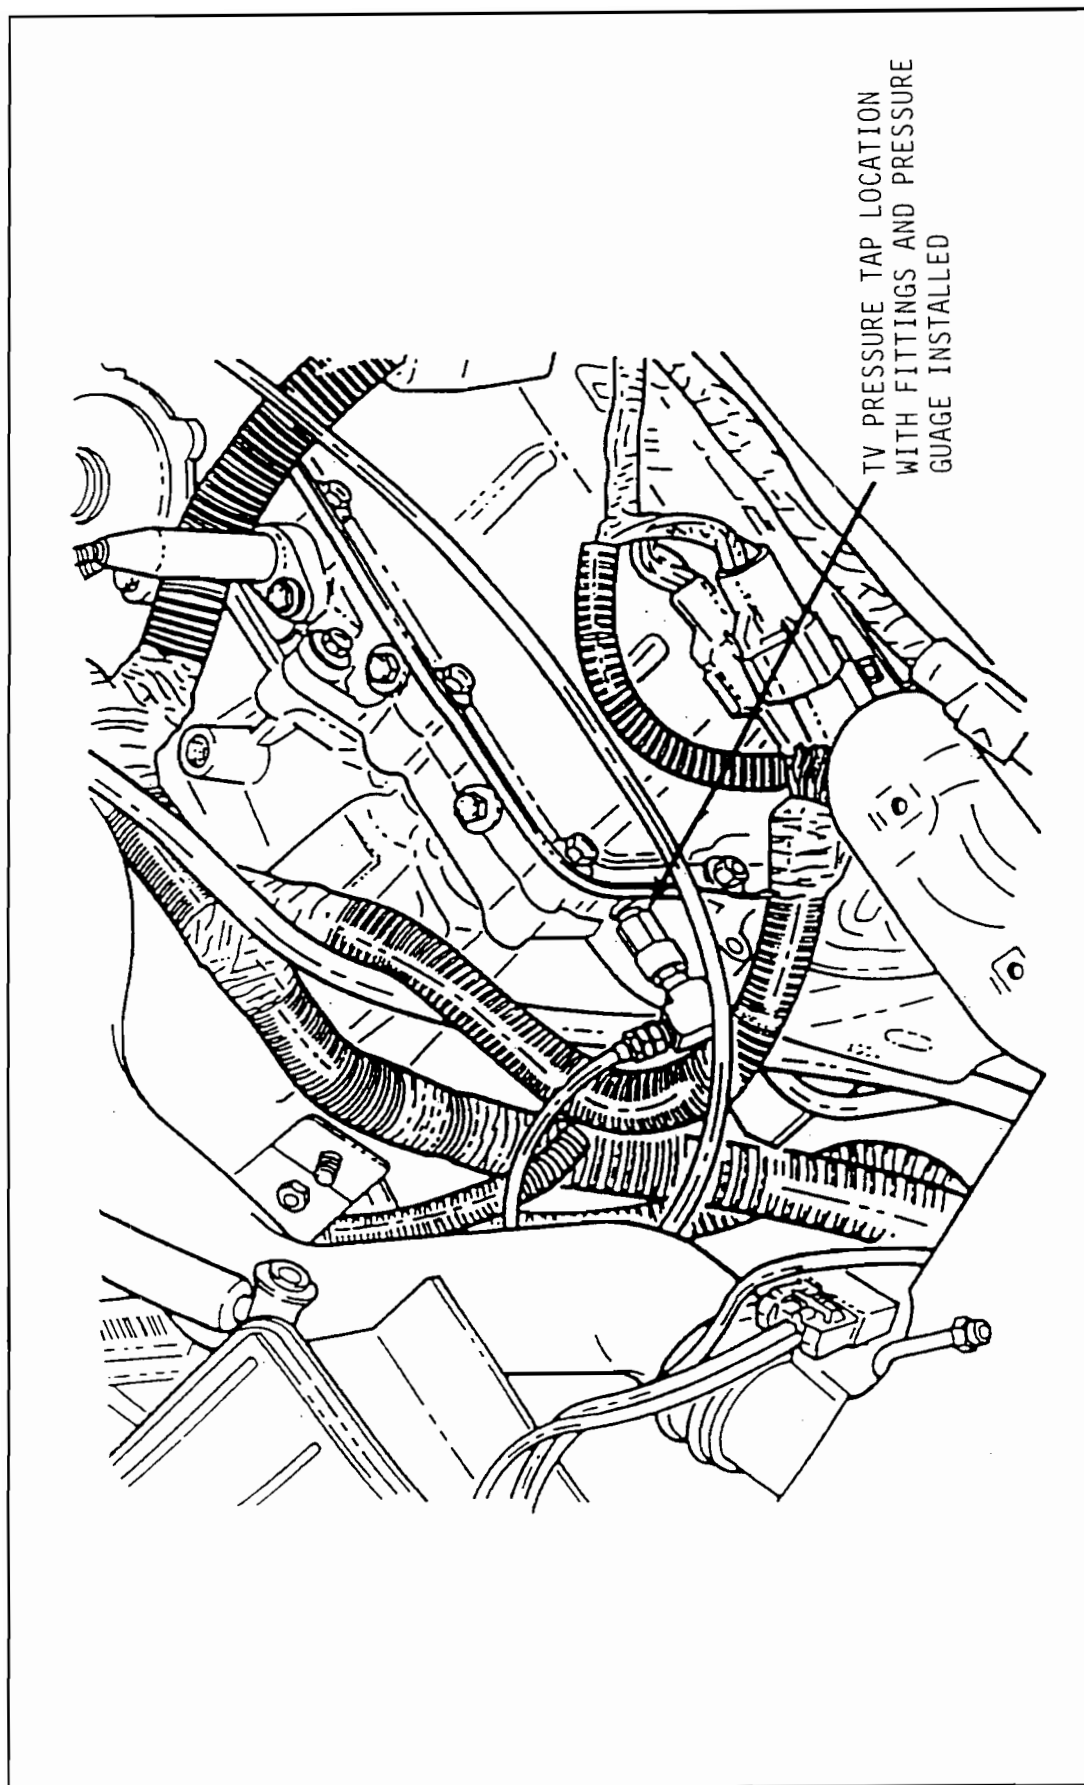

Figure 1
3. Locate the TV pressure port which is directly above the transaxle cooler lines, Figure 1.